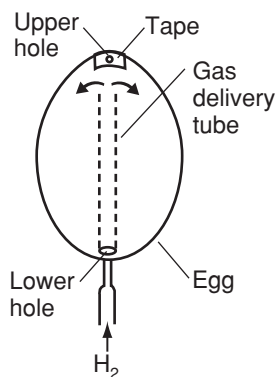

Figure 1.
2. Introduce hydrogen gas slowly through the bottom hole using a thin delivery tube that extends upward to the top of the egg (see Figure 1).